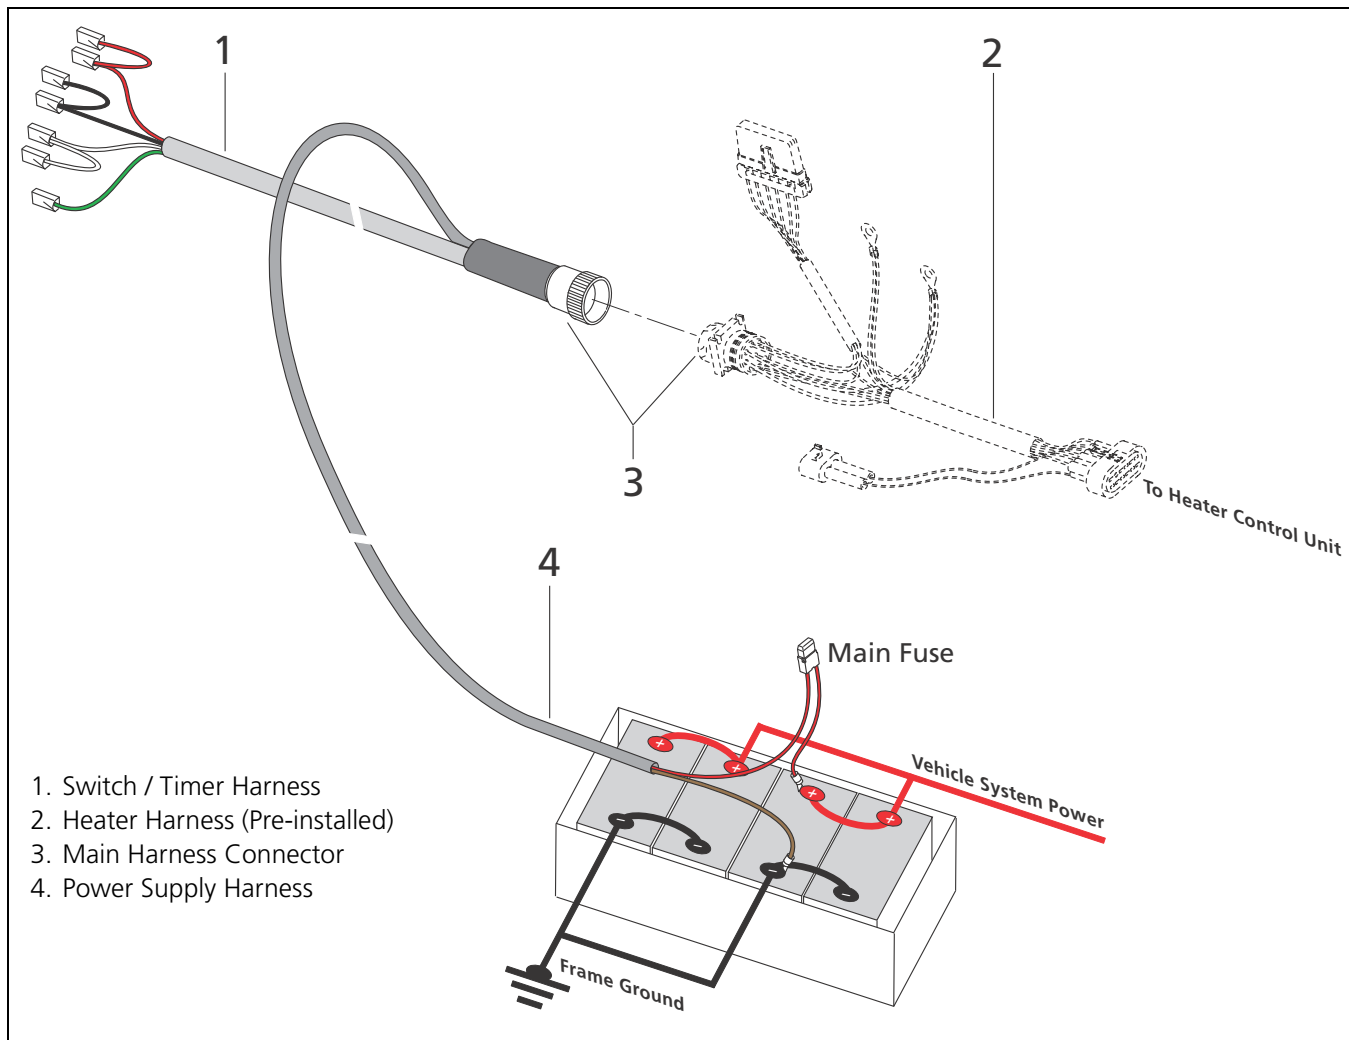

Figure 28: Power and control harness assembly
- A. Route item 1 into the vehicle cab in the area where the switch or timer is to be installed.
- B. Route item 4 to vehicle battery box and connect to batteries as shown in Figure 28. Brown wire to ground, red wire with fuse holder to positive. Ensure battery connections are clean and protected with an anti-corrosive compound.